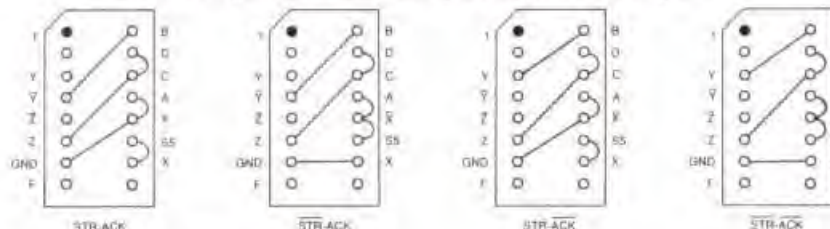

Figure 1. Jumper Block Diagrams
- C. Select the diagram in Figure 1 below that matches the STROBE/ACK "handshake" determined in A and B above.
If the STROBE/ACK signals are not defined, as a last resort try each wiring diagram in Figure 1. The Apple II will control the printer properly when the correct configuration is found. (Attempting to use the printer with an incorrect configuration will not damage the printer or the Apple II.)